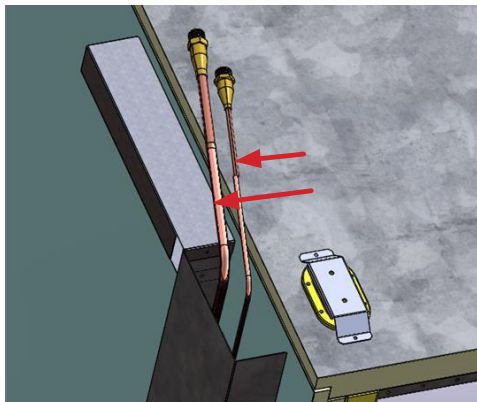

Fig. 15 Push connections towards case rear
- Gently, push connections to the rear of the case (Fig. 15) and bend them downward into the rear piping panel (Fig. 16). The piping connections can rest upon the metal cover to the left of the piping cover.